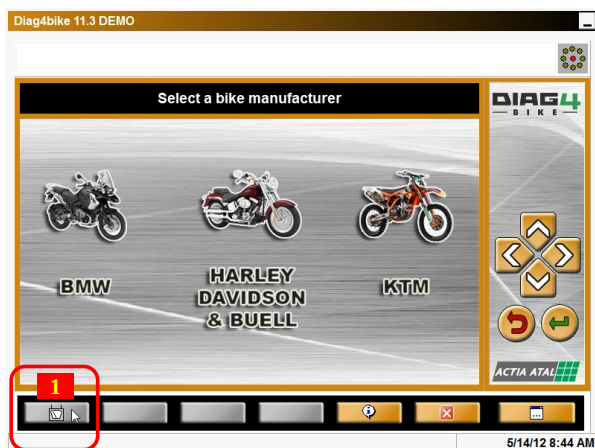
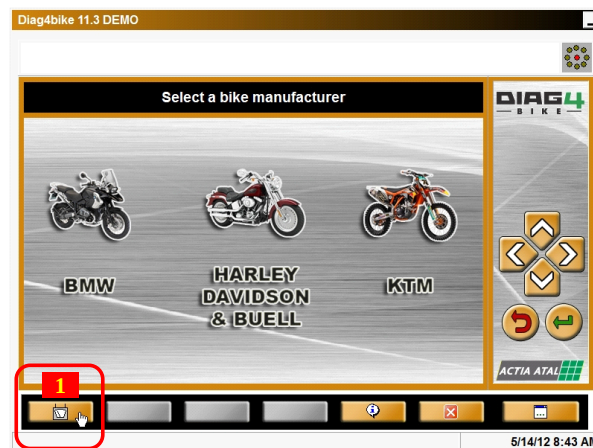
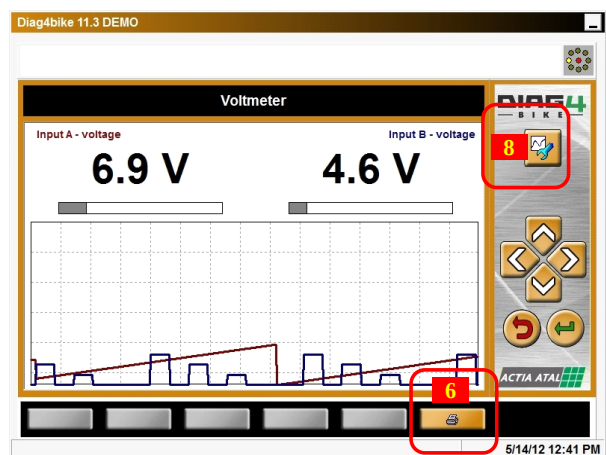

Fig. 34 – Indication of **unavailability** of analog measuring (illustrative picture)
Fig. 35 – Indication of **availability** of analog measuring (illustrative picture)
Fig. 40 – Example of measuring with voltmeter in two channels (illustrative picture)
After the DIAG4BIKE program is started, it is immediately seen in the button at pos 1, Fig. 34, if the analog measuring function is available or not.
If the function is not enabled, the button at pos. 1, Fig. 34 will be displayed in grey (inactive). If the function is enabled, the button at pos. 1, Fig. 35 will be displayed in full colour (active).
The setting result is indicated through the button at pos. 1 Fig. 34 or Fig. 35.
When the analog measuring is enabled (see Chapter 12.5.2/A), then after clicking the button at pos. 1, Fig. 35 the measuring itself is started (see Fig. 40). In this case the voltmeter measures voltages in two channels (A, B) against the ground.
When connection to the motorcycle is created, diagnostics is started, and communication is established, the Voltmeter function can be selected (see Fig. 42 and Fig. 40).